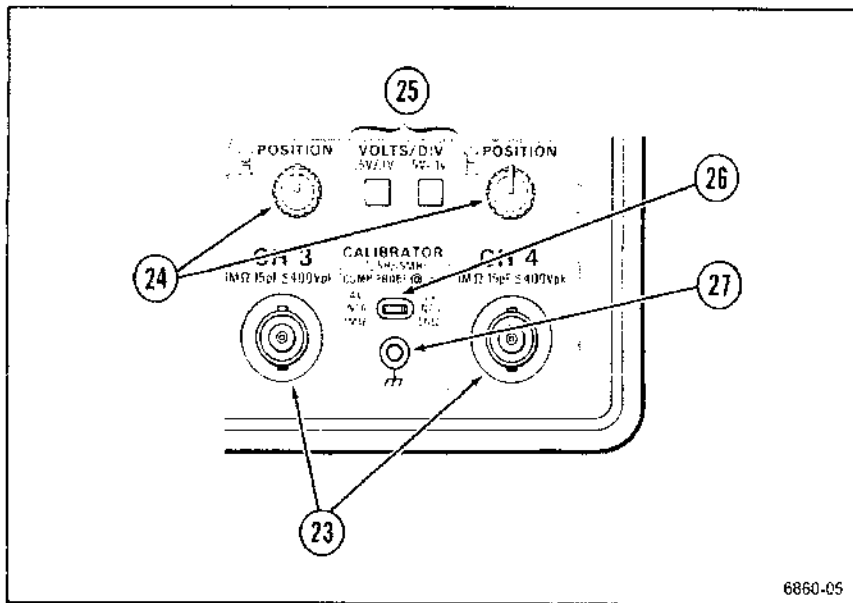

Figure 5-4. CH 3 and CH 4 controls and connectors and CALIBRATOR output.
- ②② **CH 1 OR X and CH 2** Conduct external signals to the Channel 1 and Channel 2 vertical inputs. A signal applied to the CH 1 OR X connector provides the horizontal deflection for an X-Y display. Each connector includes a coding-ring contact for Tektronix-coded probes.
Refer to Figure 5-4 for the location of items 23 through 27.
- ②③ **CH 3 and CH 4 Input Connectors** Conduct external signals to the Channel 3 and Channel 4 vertical inputs. Each connector includes a coding-ring contact for Tektronix-coded probes. Input coupling from these connectors is DC only. Channel 3 and Channel 4 are most useful as digital-signal and trigger-signal input channels, given their limited choice of deflection factors.
- ②④ **POSITION Controls** Set vertical position of the Channel 3 and Channel 4 signal displays. The controls operate identically to the Channel 2 POSITION control, but with less range on their associated traces.
- ②⑤ **VOLTS/DIV Switches** Toggle between 0.1 V and 0.5 V per division deflection factors for Channel 3 and Channel 4.
- ②⑥ **CALIBRATOR Connector** Provides a 0.4-V p-p square-wave into a 1 M Ω load, 0.2-V p-p into a 50 Ω dc-coupled load, or 8-mA p-p into a short circuit. The signal is useful for checking sweeps, delay-times, and vertical deflection accuracies, as well as compensating voltage probes and checking the accuracy of current probes. The repetition rate of the square wave changes with A-Sweep SEC/DIV changes. From 100 ms per division to 100 ns per division, the A Sweep of the instrument supplying the CALIBRATOR signal displays five cycles per 10 divisions. At 100 ms per division and slower, the CALIBRATOR frequency is 5 Hz; at 100 ns per division and faster, the frequency is 5 MHz. The signal amplitude at 5 MHz is at least 50% of the signal amplitude obtained when the sweep speed is set to 1 ms per division.